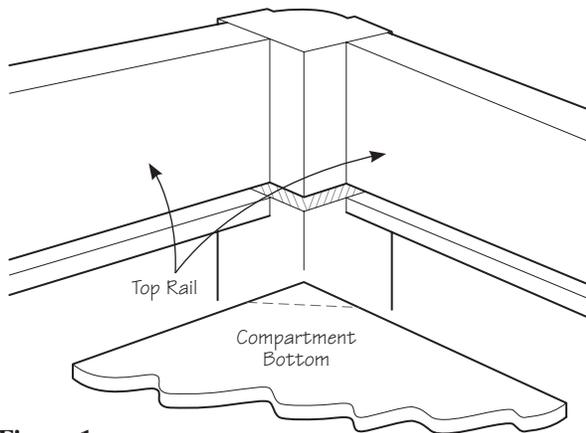

Figure 1:
- Assemble the legs and top rails without glue and transfer the groove location from the inside of the rails to the legs. Extend the lines around the legs and use a back saw to cut diagonal grooves in the legs that extend to the grooves in the two top rails. Clean out the waste with a chisel or file (see **Figure 1** below).